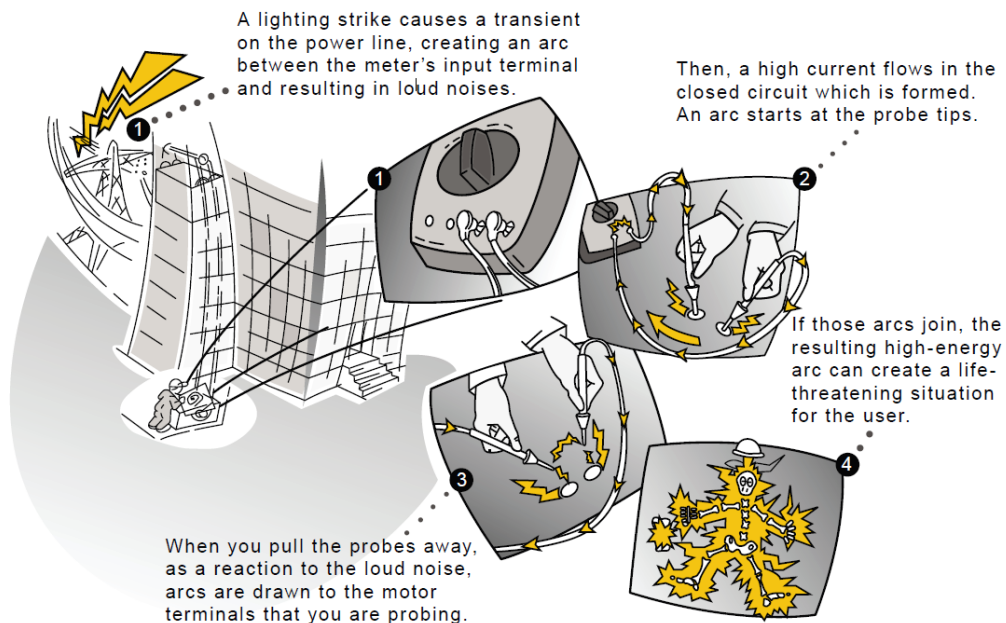

Figure 29
22. The intention of AS 61010.1 is to ensure equipment is designed to safely withstand voltage spikes without causing any hazard to the user. The effect of these high voltage spikes is to create an arc across the weakest link in the circuit, typically across the meter and test probes. The arc initiates a short circuit fault across the conductors and/or to earth. The wires may vaporize and create a rapidly expanding plasma fireball engulfing the person using the meter. The fireball can reach temperatures of up to 10,000°C. See Figure 29 below for details of possible scenario.